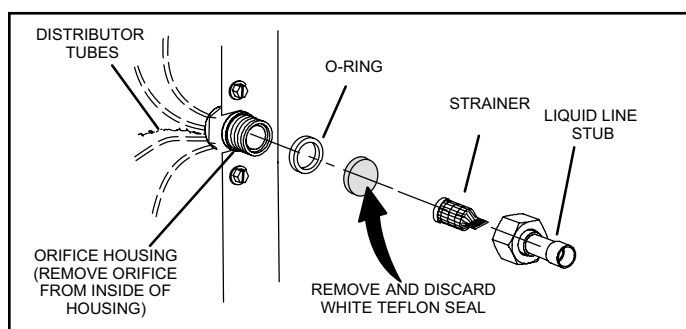

Figure 4. Typical Fixed Orifice Removal
4. Remove and discard the existing orifice, valve stem assembly (if present) and Teflon ring as illustrated in Figure 4.